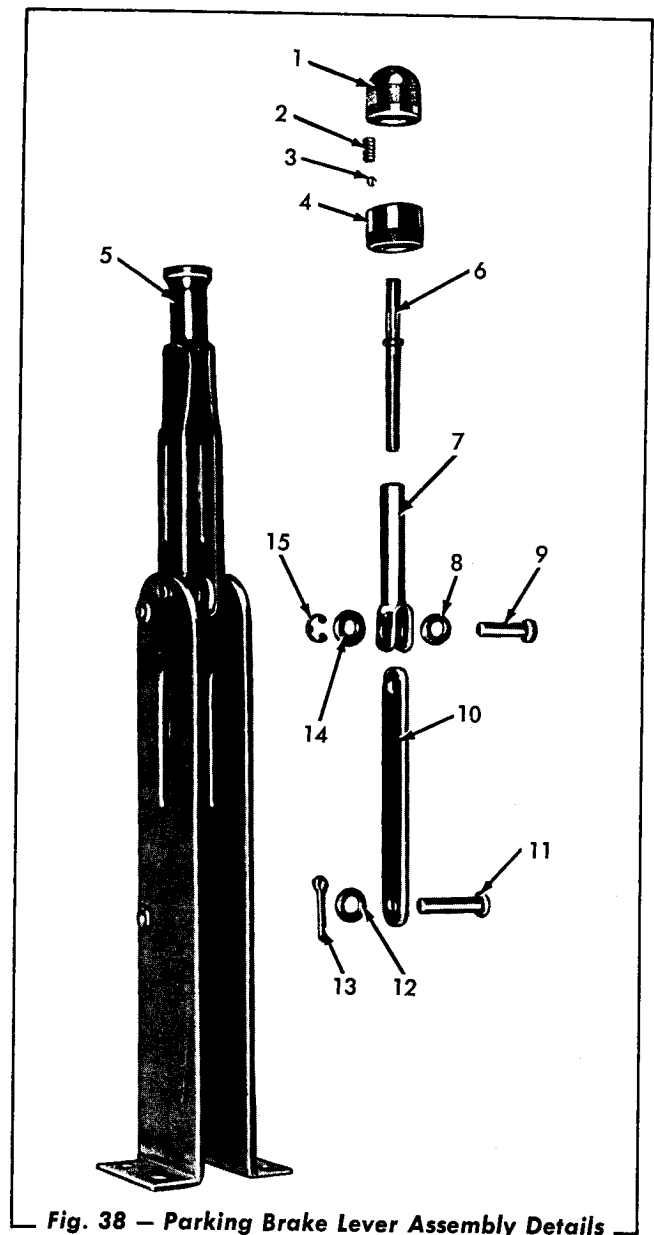

Fig. 38 — Parking Brake Lever Assembly Details
2. Remove the cotter pin and the lower clevis pin and the washer from the lever assembly (Fig. 38).
The parking brake is adjusted by turning the adjusting knob (Fig. 38) on the parking brake lever assembly.